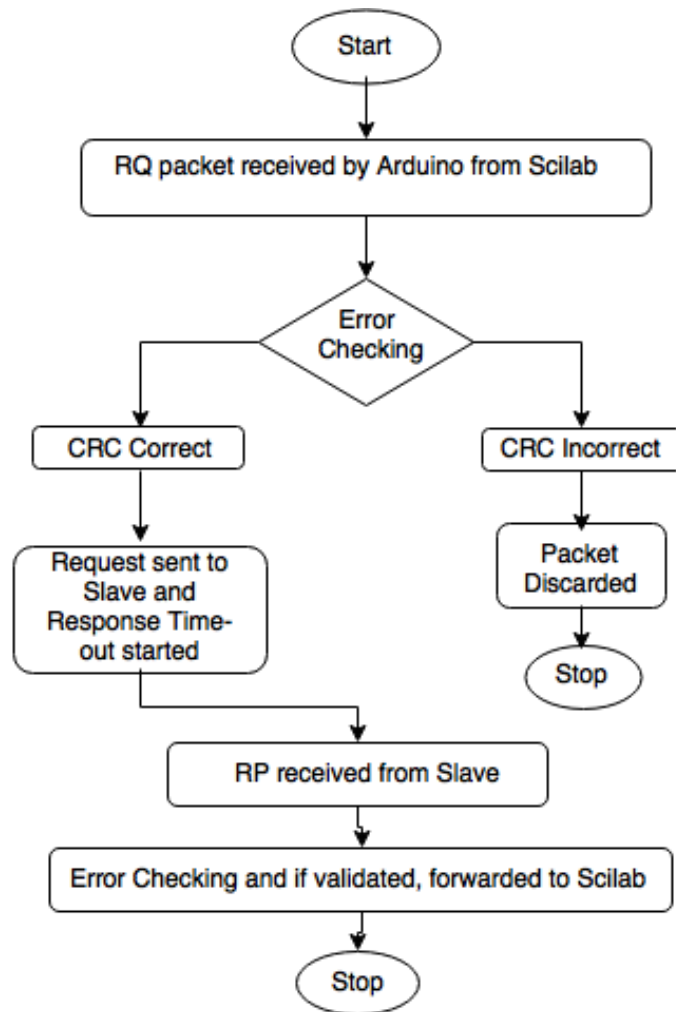

Figure 11.6: Flowchart of Arduino firmware
1. Arduino Uno firmware code: This code is written to communicate with Scilab (using serial interface), and with MAX485 chip (using Software Serial interface). Control logic to enable receive and transmit modes of MAX485 chip is also present in Arduino Uno firmware code. The overall implementation is being described in Fig. 11.6.